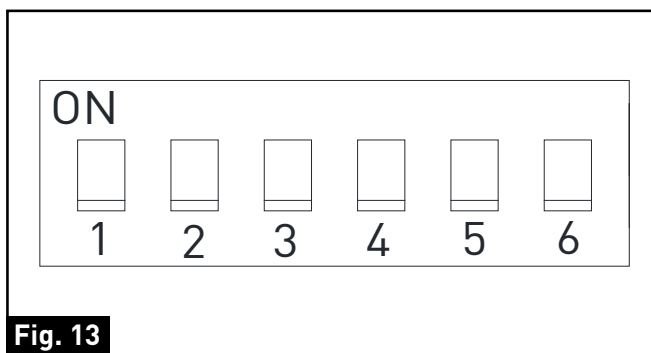

Fig. 13
14. Set up the control box dip switches as indicated in the illustration and table below (Fig. 13):